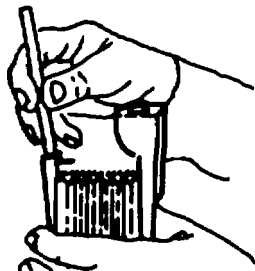
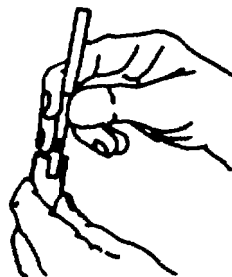
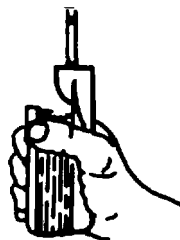
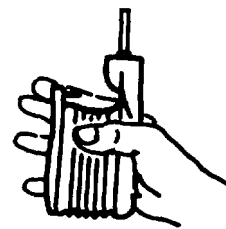

Figure B-3.
Figure B-4.
Figure B-7.
Figure B-9. Tauting
- b. Break off both tips of the DRAGER Tube in the break-off eyelet (Fig. B-3) or in the break-off husk (Fig. B-4).
- e. Fully compress the bellows (Fig. B-7).
- f. Straighten the fingers. The suction process takes place automatically and is completed when the limit chain is taut (Fig. B-9).
a. Breaking-off the tips of the Tube. Break off both tips of the DRAGER Tube in the break-off eyelet (Fig. B-3). The break off husk (Fig. B-4) can also be used for this purpose. This ensures that glass splinters do not fall onto the floor.
Compress the bellows completely (Fig. B-7) and then release it (Fig. B-9). When the bellows is compressed, the air in it escapes through the outlet valve and not through the Tube, since the Tube has a much higher resistance than the outlet valve. The pump suction operation commences when the fingers are relaxed. The compression springs inside the bellows, which are placed under stress when the bellows is compressed, extend and the outlet valve is closed through the vacuum created in the bellows. The air flows through the DRAGER Tube into the bellows while the latter returns to its original volume (Fig. B-4). The volume of air sucked-in by the DRAGER Tube is defined by the dimensions and stroke of the bellows. It amounts to 100 cm³ per stroke. The end of the suction movement is reached when the limit chain is completely taut. Since the suction of the pump is caused only by the relaxation of the springs, any subjective influence is excluded.